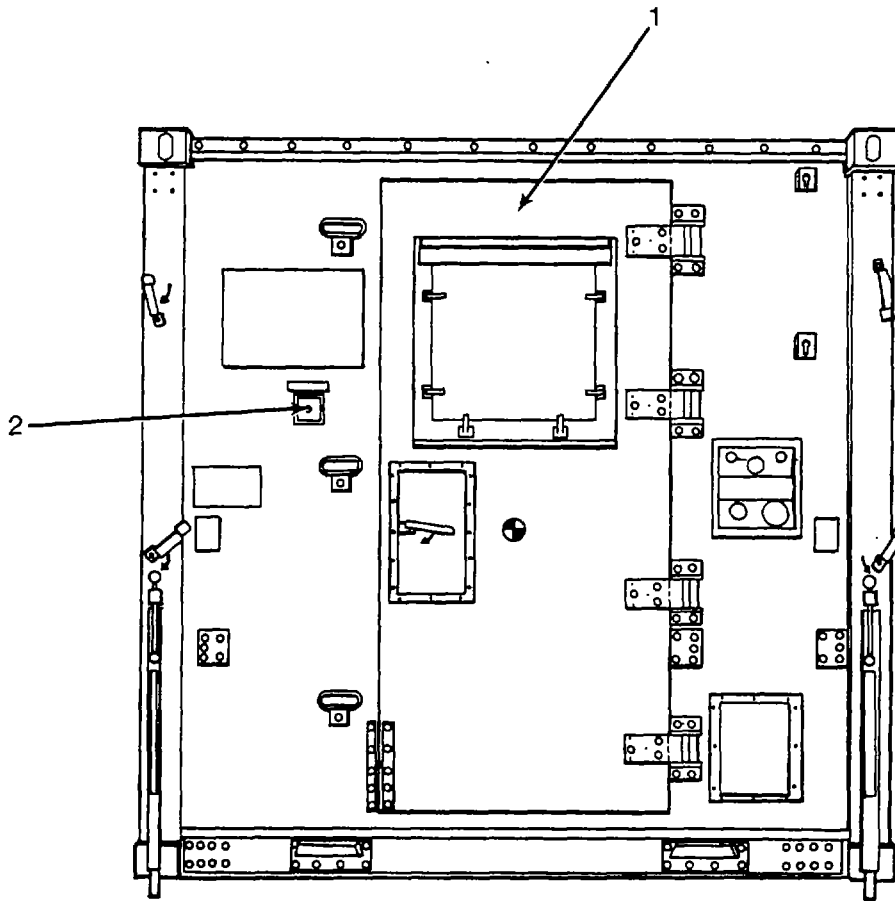

Figure 1-2. Outside Front View of Press Section
1-10. **LOCATION AND DESCRIPTION OF MAJOR COMPONENTS** Left and right orientation is determined by facing the ISO shelter personnel door from the outside. Paragraph numbers below correspond to callouts in Figure 1-2 through figure 1-4. All equipment is located in its operational position.
a. Outside Front View of Shelter. Refer to Figure 1-2 for location of major components.
- (1) Personnel Door-Provides means for entering the shelter.
- (2) Blackout Button-When depressed, sounds buzzer. Used only during blackout conditions.